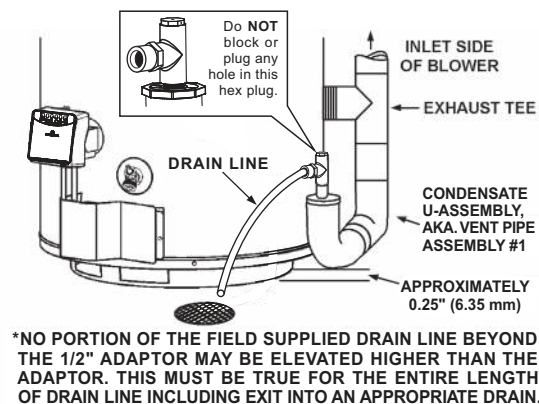
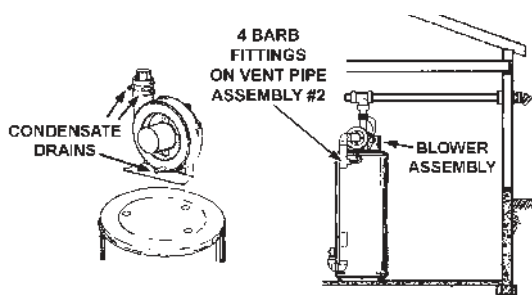

FIGURE 16.
FIGURE 17.
3. The blower discharge adapter is made to accept only straight sections of 2" pipe. To start, a minimum of 2 inches (5.1 cm) of 2" pipe must be attached to the blower discharge, see Figure 17.
4. There will be some installations where condensate will be formed in the horizontal runs of the vent system. This condensate will run into the condensate boot attached to the blower and out the fitting. The water heater is shipped with condensate hose that attaches to the fitting on the condensate boot. No other Tee or fitting is required. See Figures 17, 20 and 21.
This water heater is a condensing unit and requires a drain to be located in close proximity to allow condensate to drain safely. One hose from blower housing and two flexible hoses from blower outlet adaptor run to barb fittings on vent pipe assembly #2. Hose is clamped by rubber clips and flexible hoses by a clamp on jacket top cover. See Figure 17. Condensate drains from the unit at the exhaust tee located at the bottom of the unit, see figure 16. Condensate from this water heater is mildly acidic. Please note that some local codes require that condensate is treated by using a pH neutralizing filter prior to disposal.
NOTE: It is important that the field supplied drain lines beyond the 1/2" adaptor of vent pipe assembly #1 should be installed continuously tilted downward toward an appropriate drain. See Figure 16. If these instructions are not followed or if condensate drain line is blocked, water will spill from condensate trap. Do not
Condensate is likely to form in the venting system attached to this water heater. The vent pipe should be sloped downward away from the blower assembly (not less than 1/8" (3.2 mm) nor greater than 1/2" (12.7 mm) per foot (30 cm) maximum). If the vent piping is vented level or sloped upwards away from the blower assembly, then adequate means for draining and disposing of the condensate needs to be made by the installer. Two 3/8" condensate hoses should be connected to the built in drain ports of blower outlet adaptor. The unused barb fitting on vent pipe assembly #2 should be plugged with one of the break-away plugs. See Figure 17.
3. Condensate drains from three locations on blower assembly. See Figure 17. One flexible hose runs from bottom of blower housing; two run from the ports of rubber connector at the outlet of blower. All these three condensate hoses are connected to barb fittings at vent pipe assembly #2. The hose from bottom of blower housing is clamped by two clamps and the two hoses from rubber connector are harnessed by another clamp. Make sure there is no kink or twist.